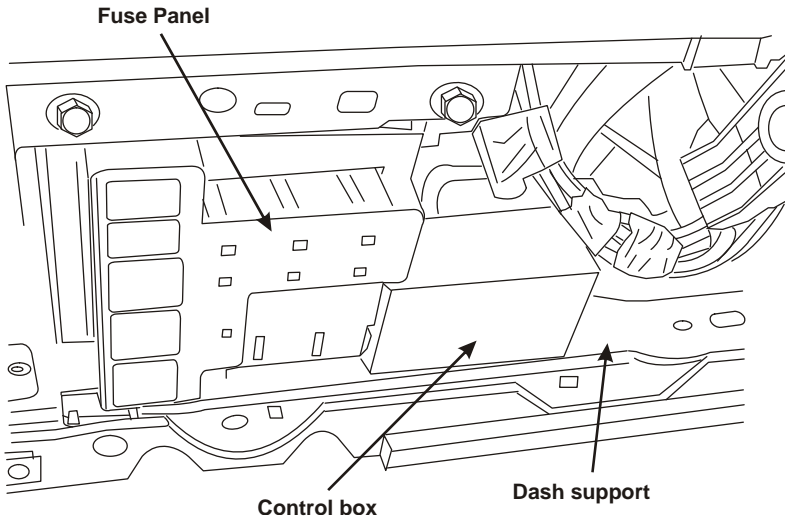

Figure 4.2
- Mount the switching box under the dash to the right of the fuse panel using nylon ties (Figure 4.2).